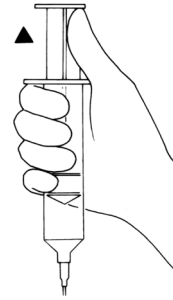

Figure 4-4a. Aspirate Air
5. Aspirate any air left in cuff until you feel a slight resistance on the plunger. (**Figure 4-4a**)